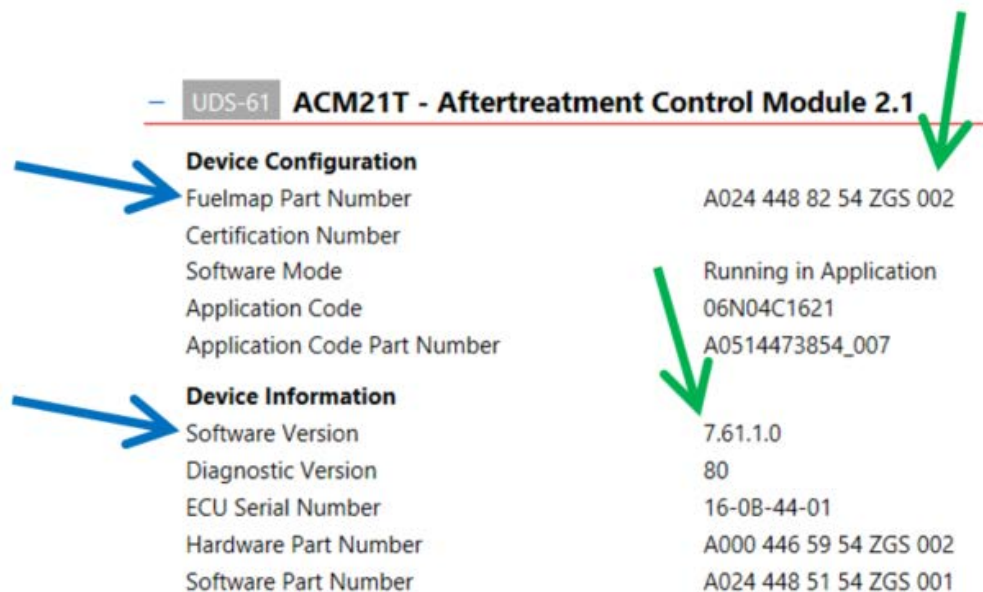

Figure 1 – MINIMUM MCM Software and Fuel Map ZGS levels
5. On the Identification screen, check the current ACM, MCM, CPC, and TCM (if equipped) software and fuel map levels. Listed in the table on page 1, are the **MINIMUM** levels required. See Figure 1 for an example of the Identification screen for the ACM.